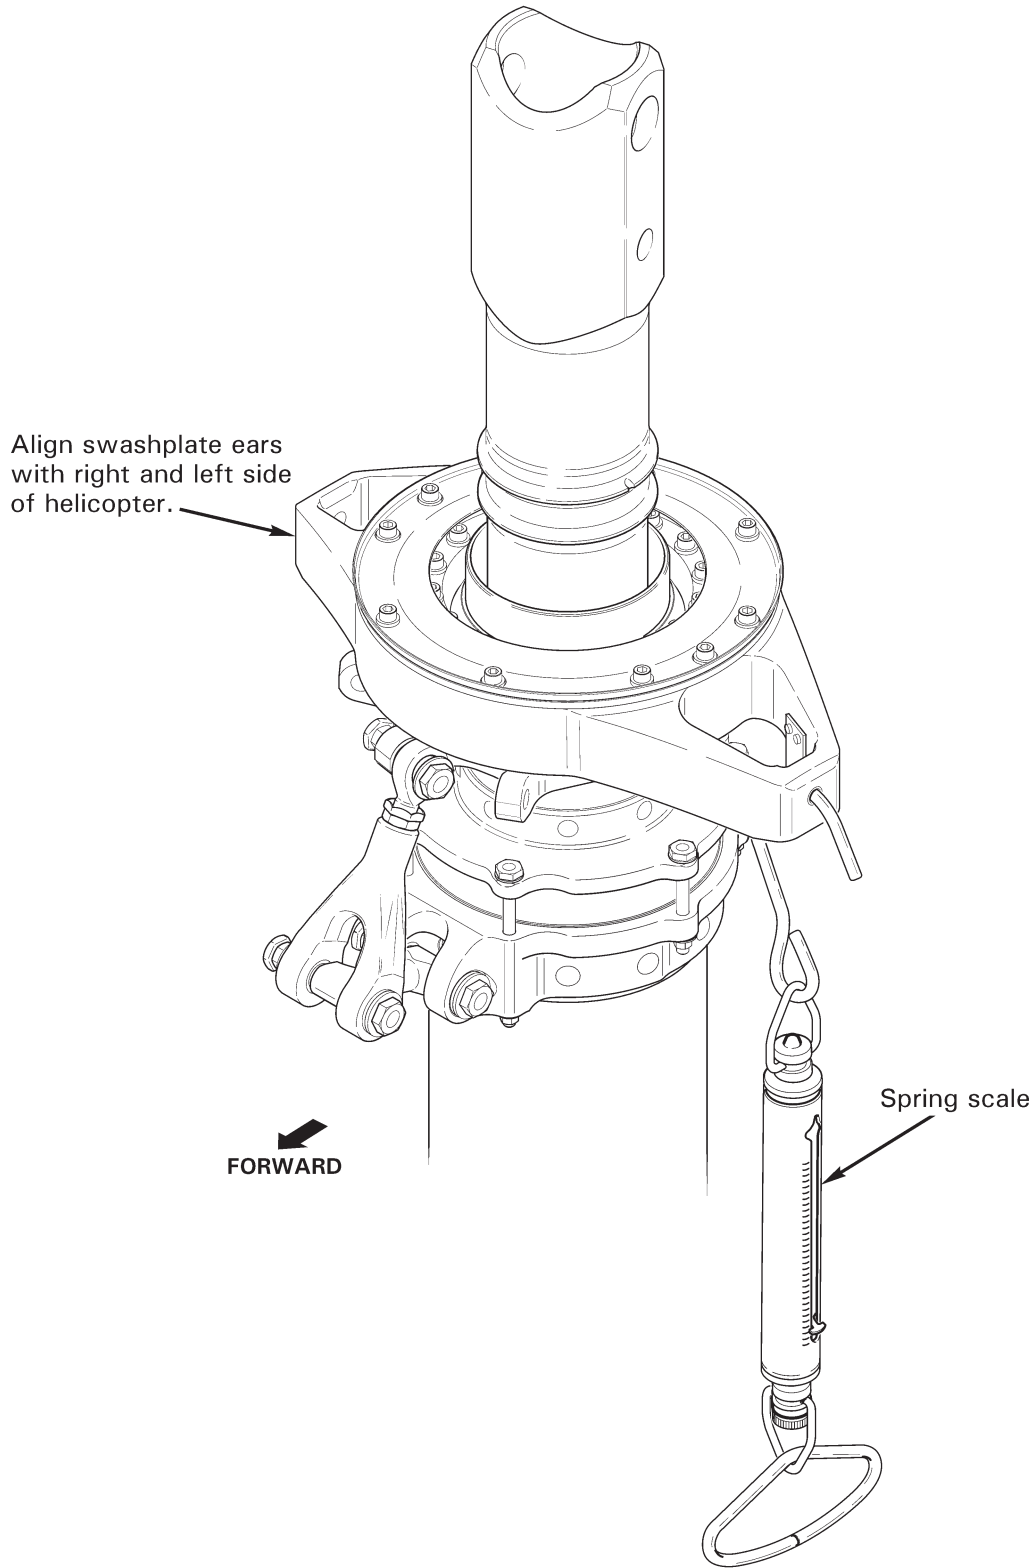

FIGURE 8-11 MEASURING SWASHPLATE TILTING FRICTION
2. Refer to Figure 8-11. Align upper swashplate arms with lateral axis of helicopter and center cyclic stick. Using MT359-1 spring scale (or equivalent) connected to upper swashplate arm bolt hole, pull down and note scale reading while swashplate is moving; do not use breakaway reading. For C017-6, force required to tilt swashplate must be between 2 and 7 pounds. For C017-4, force required to tilt swashplate must be free-without-looseness minimum to 5 pounds maximum.